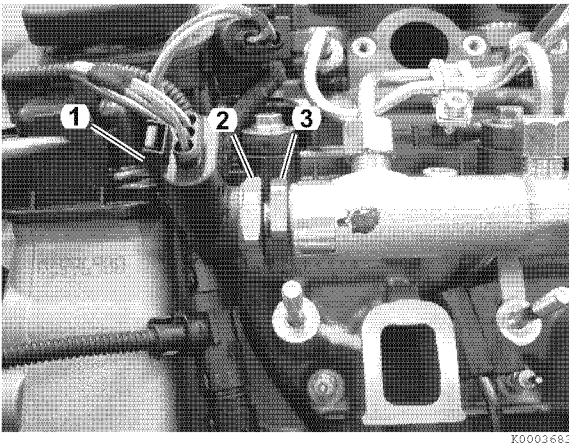

Figure 12-33
3. Disconnect electrical connector from sensor (1, **Figure 12-33**).
4. Hold sensor hex (2, **Figure 12-33**) with wrench and loosen retaining nut (3, **Figure 12-33**).